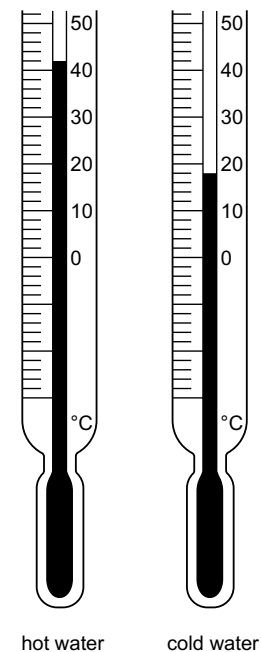
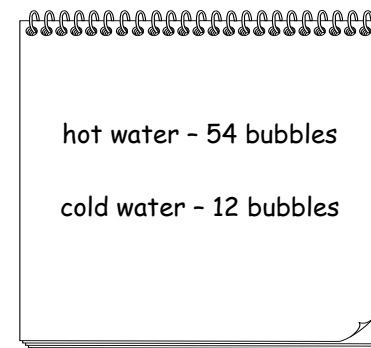

Fig. 1.2
Fig. 1.3
Fig. 1.2 shows the thermometer during step 4 and step 10.
Fig. 1.3 shows the number of bubbles the student counted in three minutes in step 7 and step 10.
- (a) (i) Prepare a table for the results and record the temperatures shown in Fig. 1.2 and the results shown in Fig. 1.3.
- Some misread the thermometers in Fig. 1.2, often as 41 °C and 19 °C.